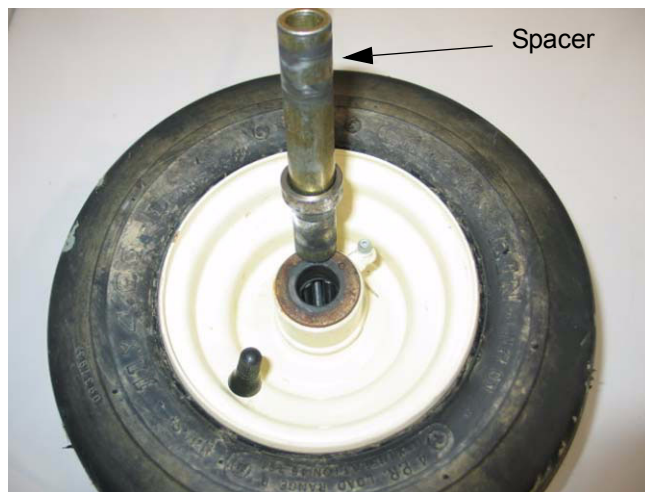

Figure 11.4
- 11.4. Remove center wheel spacer and inspect all spacers for damage. See Figure 11.4.